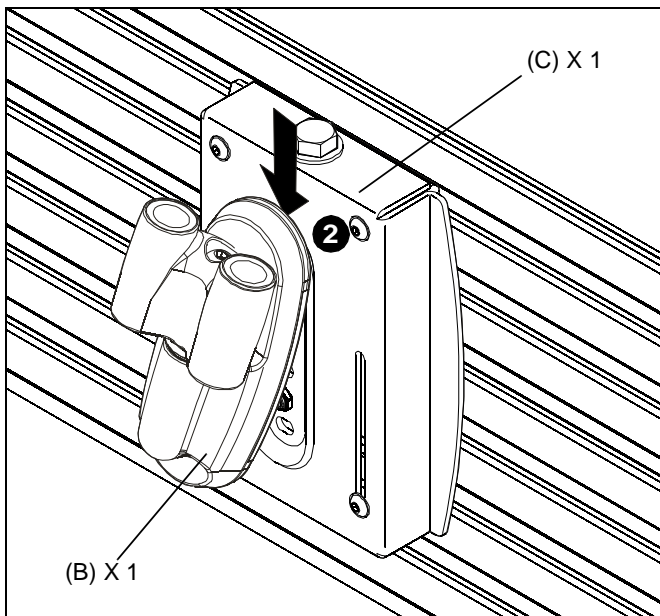

Figure 1
2. Insert top of wall plate (B) over lip on top of OFBU bracket (C). (See Figure 1)